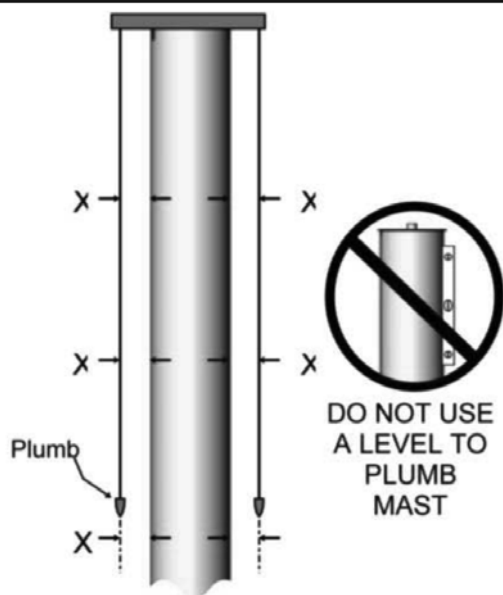

Figure 1 Plumbing the Mast Assembly
7. Lower MAST ASSEMBLY over ANCHOR BOLTS and set on foundation grout surface. Tighten ANCHOR BOLTS until MAST ASSEMBLY is plumb in all directions (see **Figure 1**). Grout is soft and will allow BASE PLATE to settle for plumbing procedure.